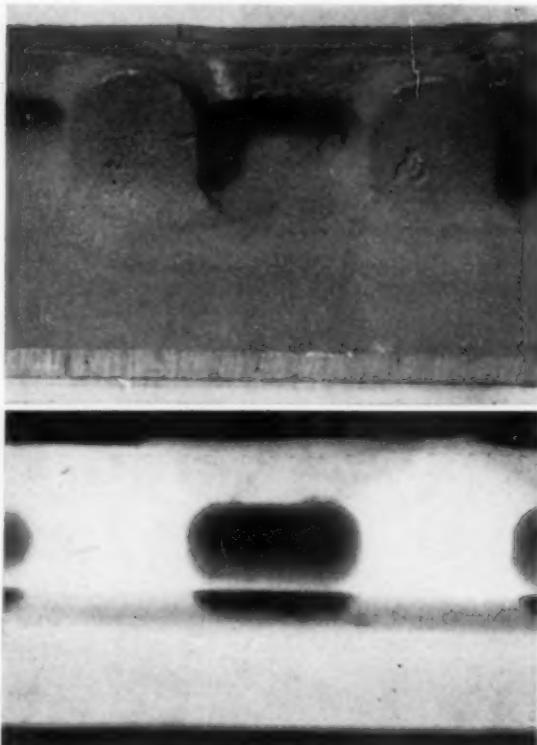

Fig. 2 — Radiogram of Same Casting; Spots Are Oxide Inclusions in Web Between Bosses
**Oxide inclusions** usually are easily detected by visual examination, because they tend to be at the surface. Figure 1 shows several pieces of oxide, entrapped in a casting. X-rays do not reveal oxide inclusions particularly well, because magnesium oxide has almost the same coefficient of absorption as the metal itself. X-ray detection is therefore based on the fact that usually oxide is not so closely packed as the metal, and therefore shows as a darker area (Fig. 2).